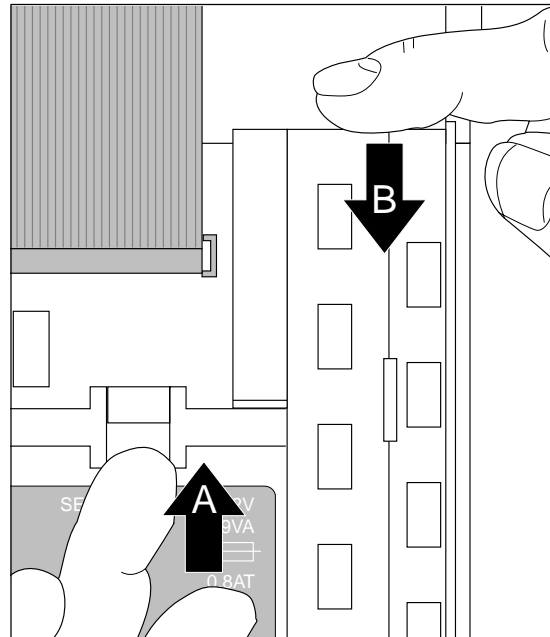

Fig. 16: Dismount remaining tubes
- Push partition upwards with one hand (**A**) and if necessary remove the other tubes (**B**) in the following order: middle, left, right (fig. 16).